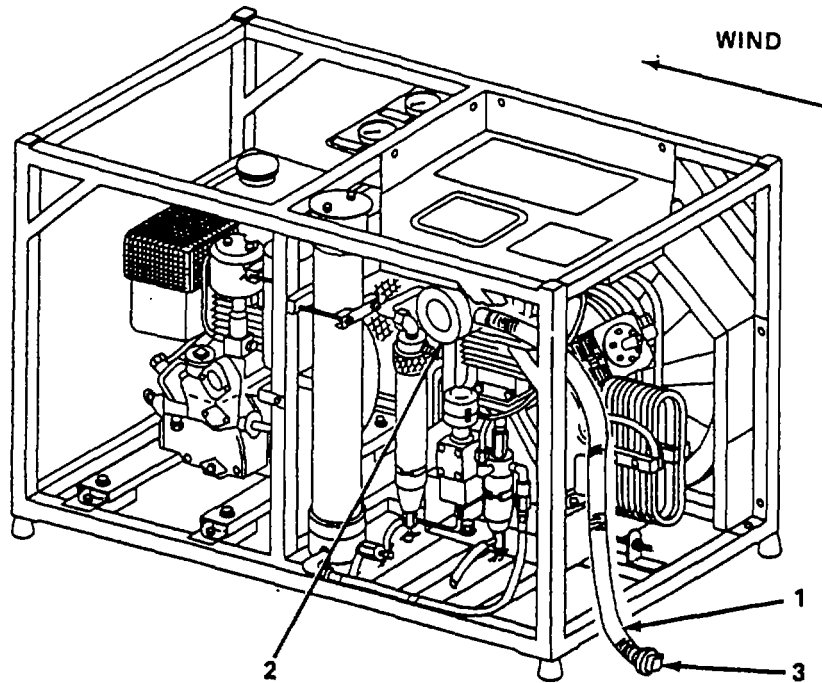

Figure 2-3. Compressor Orientation.
- d. Connect plastic hose of pre-filter (1) to the compressor air intake filter (2) and locate pre-filter (3) on ground upwind from compressor exhaust (figure 2-3).
- (1) Perform your before operations (B) preventive maintenance checks and services (PMCS table 2-1).
- (2) Fill the engine fuel tank with clean, fresh diesel fuel, type #2, or 2D. Do not mix oil with diesel fuel. Do not use gasoline fuel additives or other starting fluids in fuel tank. Do not overfill or spill. If fuel is spilled, wipe up immediately.